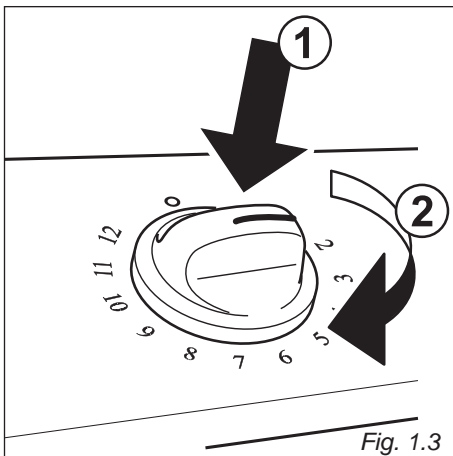

Fig. 1.3
- Turn the cooktop over and put tabs "A" (fig. 1.3) into the mountings, only tighten screws "B" a few turns. Make sure that the tabs are mounted correctly as shown in the figure 1.4. Turn the tabs so that the cooktop can be put into the hole.